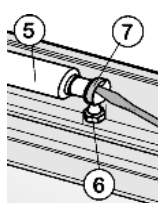

Fig. 4
- ▶ Lift the soft stop mechanism Fig. 4 (5) off the ball journal Fig. 4 (6). Carefully lift the spring using a screwdriver in order to detach the spring clip Fig. 4 (7).\*
- ▶ Transfer the ball stud Fig. 4 (6) and tighten it firmly (with 2 Nm).